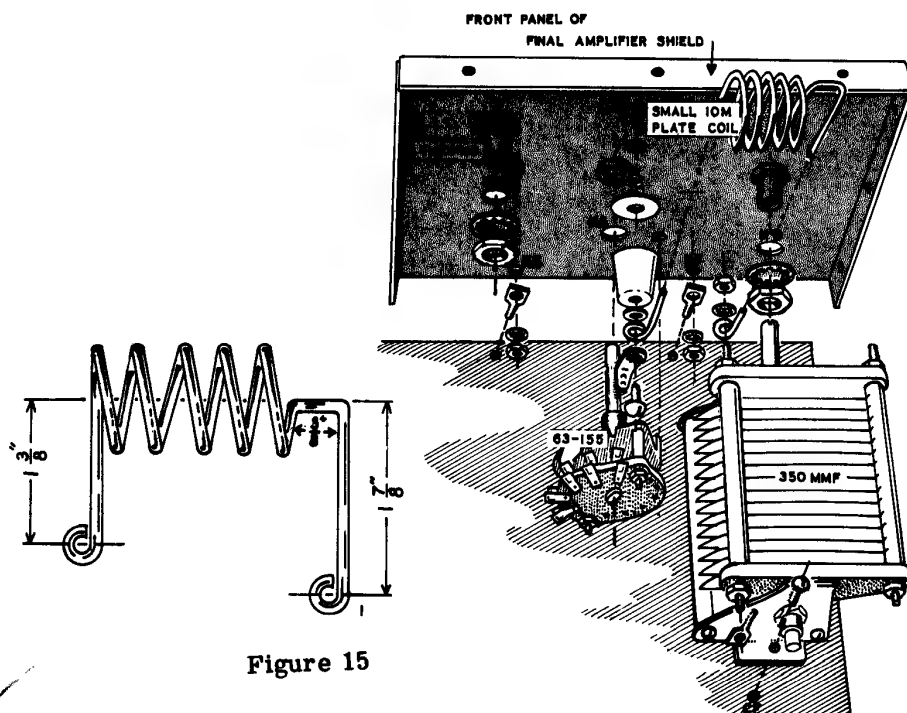

Figure 15
- (✓) Locate the front panel of the final amplifier shield. This is the rectangular piece shown in Figure 15 with the three flanged edges.
- () Mount a spade lug at locations KE and KF. Mount the lugs on the flanged side of the panel, referring to Figure 15 for mounting instructions. Use #6-32 x 1/4" RHMS with lockwashers under the nuts.